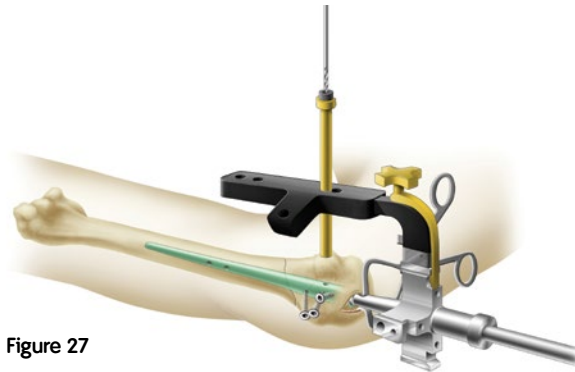

Figure 27
4. Insert the sleeve unit into the hole marked "Anterior" on the Proximal Drop (Figure 27).